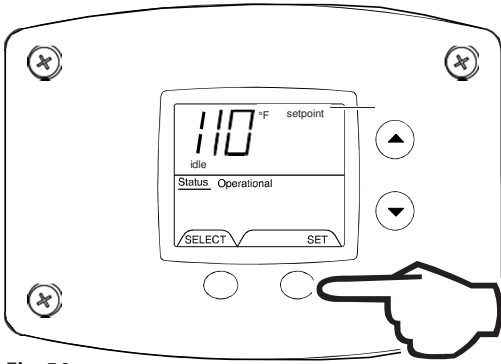

Fig. 54
4. To lower the temperature setpoint, press the 'Temperature Down' button until the desired temperature is shown on the water heater display (Fig. 54).